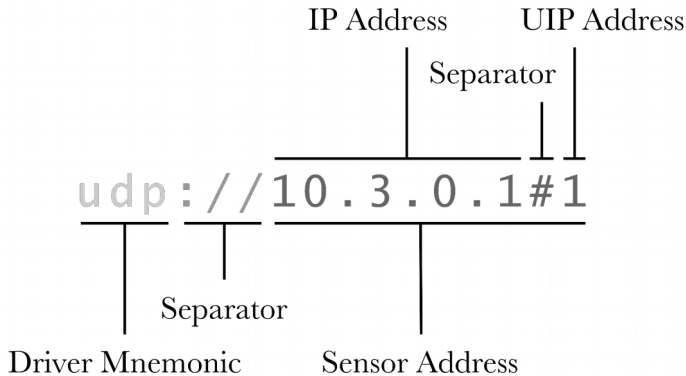

Figure 1: Anatomy of a sensor URL
2. In other cases, both driver type and sensor address are already known to the application, either at compile time or at runtime. In such situations, the corresponding URL can easily be composed programmatically by concatenating driver mnemonic, separator and address according to figure 1 (the API even provides static helper methods in the `DriverManager` class for that purpose).